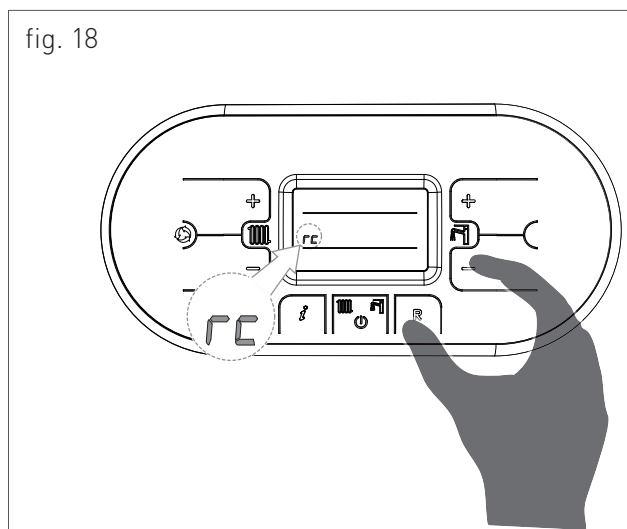

fig. 18
- › Activate the recirculation mode by simultaneously pressing the **R** and **-** buttons of the control panel (figure 18). The activation of the recirculation mode is displayed on the control panel as indicated by the 'rc' symbol.